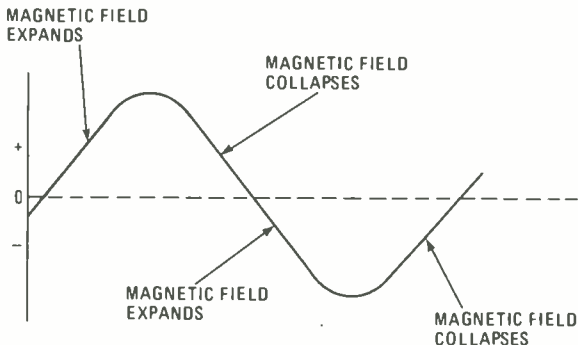

Fig. 2—The magnetic field increases during the increase in the rate-of-change of the current in the coil.
3. (magnetic field) Figure 2 shows a sinewave of AC that flows in an inductor. As the current increases, the magnetic field expands outward. As the current decreases, the magnetic field collapses; then the direction of current flow reverses. Again, the magnetic field expands as the current increases in the opposite direction. The magnetic field then collapses as